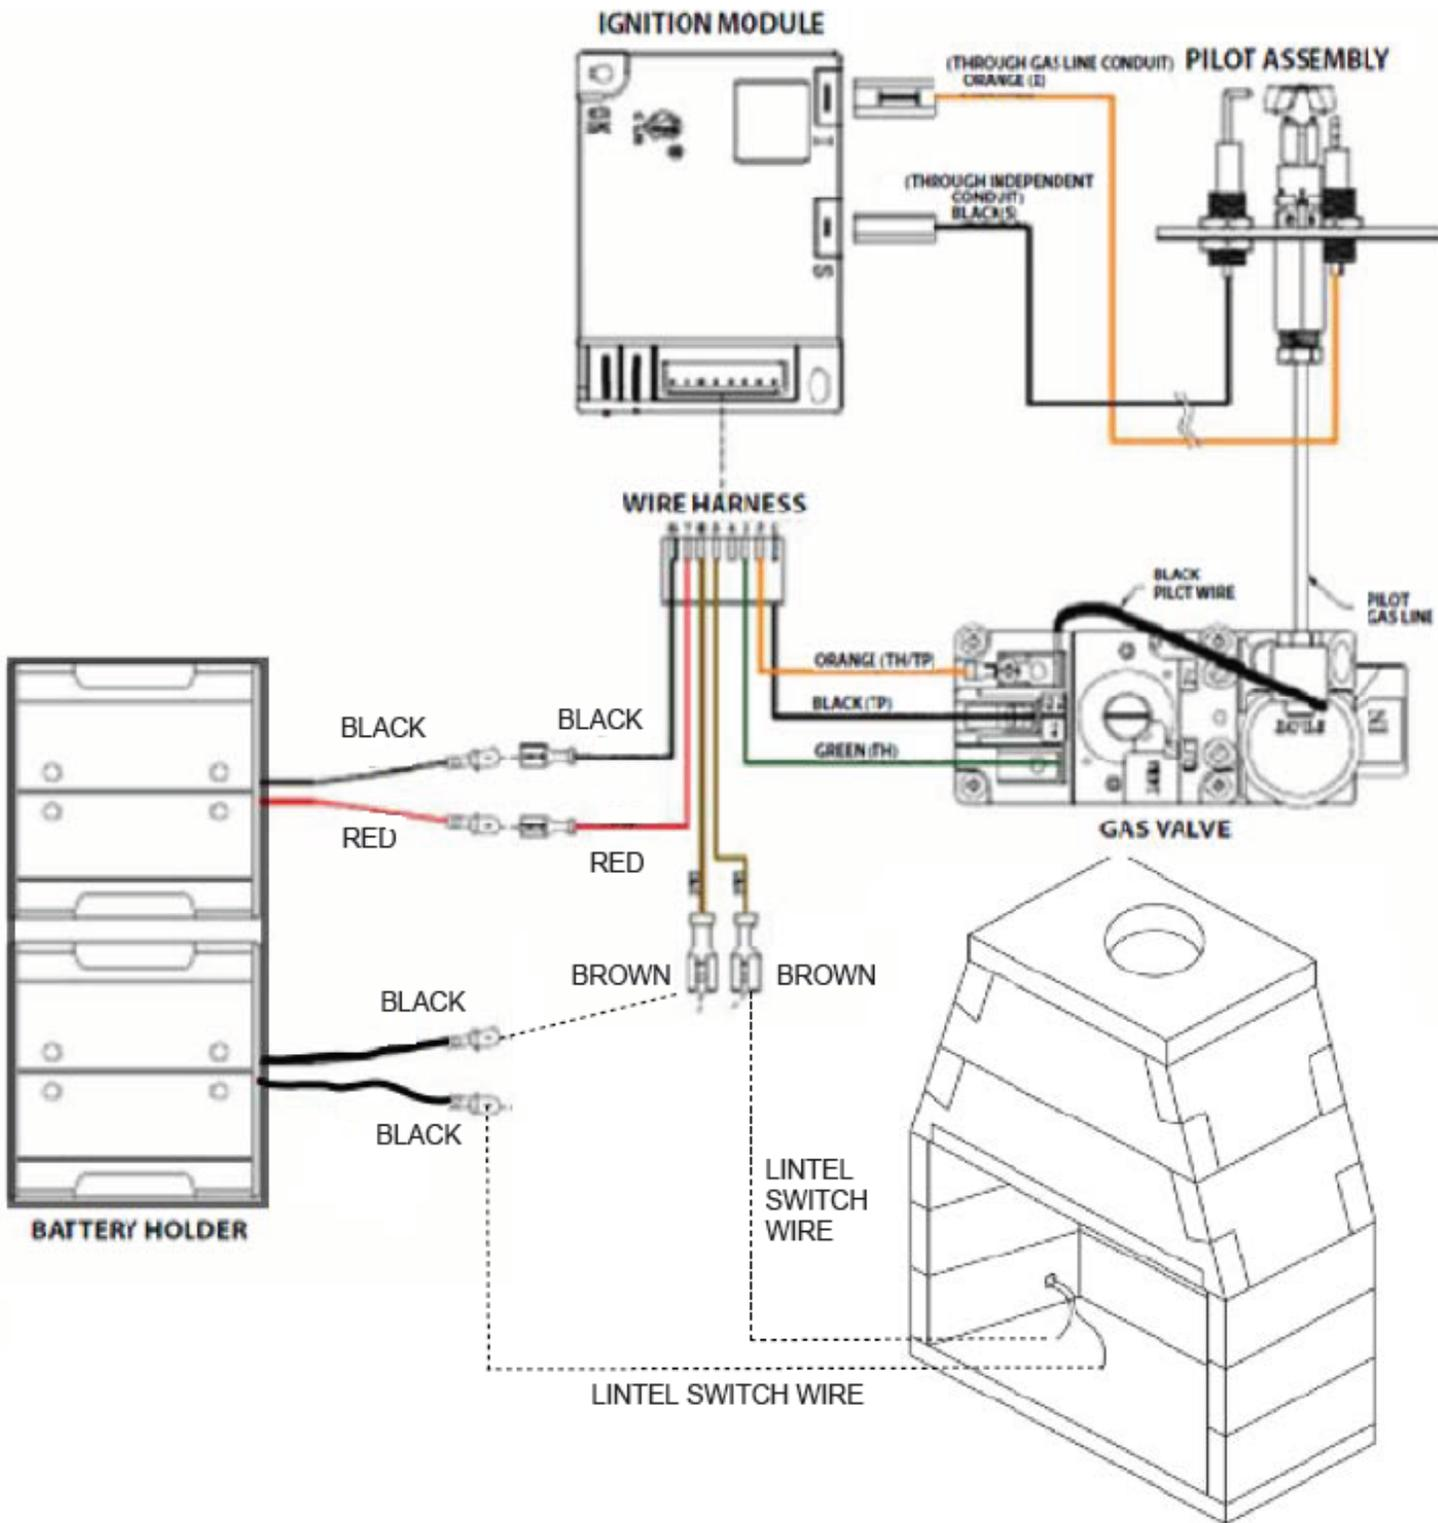

FIGURE 35
4. Disconnect one black-to-brown wire connection and connect the black and brown wires to the Spill Switch wires. (Figure 35, 38, and 39)